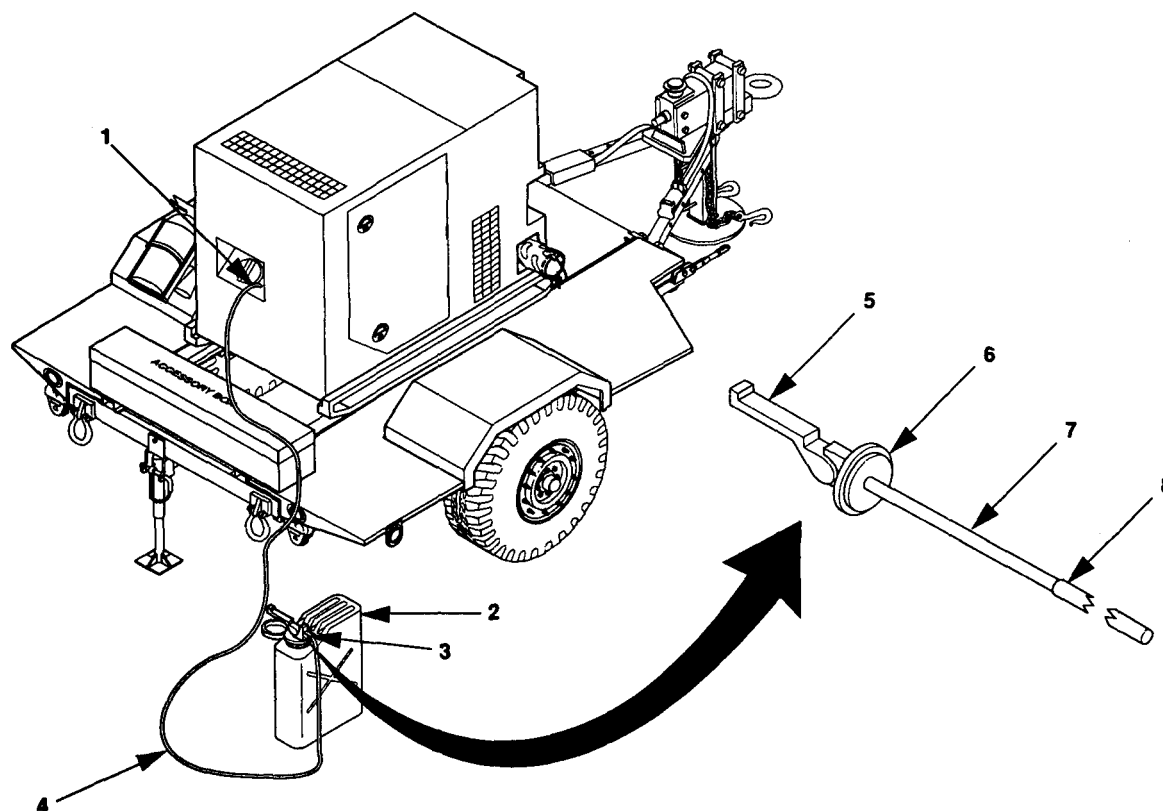

Figure 2-6. Auxiliary fuel (Typical).
- a. Place the external fuel source (2, figure 2-6) several feet, but no more than 25 feet, away from the generator set.